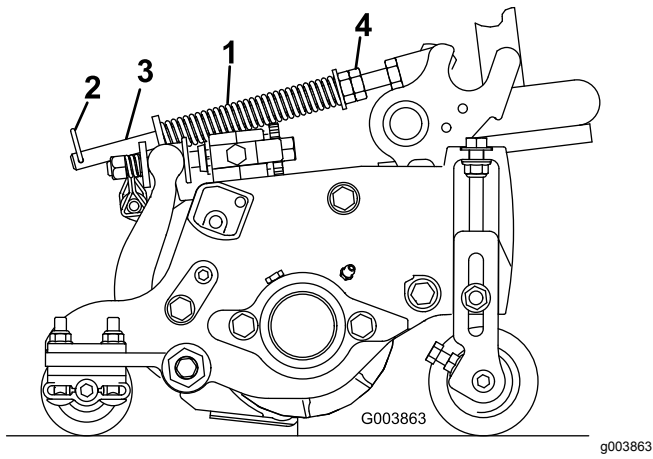

Figure 15
The turf-compensation spring (Figure 15) transfers weight from the front to the rear roller. This helps to reduce a wave pattern in the turf, also known as marcelling or bobbing.
1. Make sure that the hairpin cotter is installed in the rear hole in the spring rod (Figure 15).
2. Tighten the hex nuts on the front end of the spring rod until the compressed length of the spring is 15.9 cm (6.25 inches) (Figure 15).